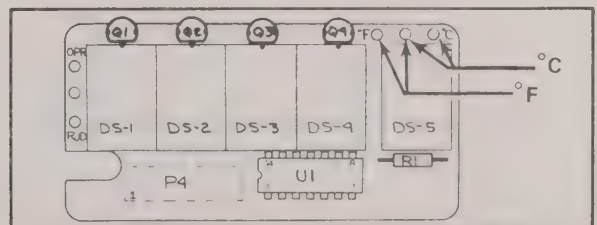

Figure 2-2. TEMP. SCALE (°C/°F) JUMPER LOCATION
- Locate the °C/°F jumper on the Display PCB as shown in Figure 2-2.